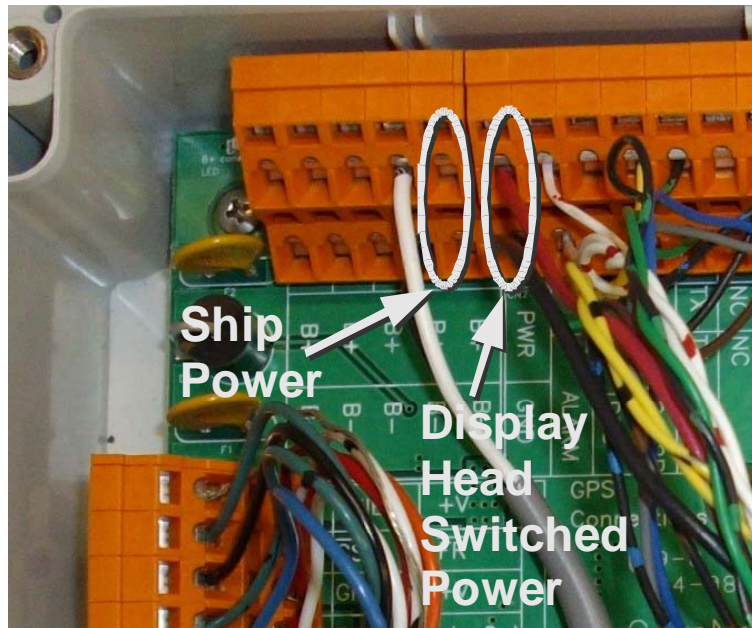

Figure 9 – Vector G2 Power Connection - Always On or Switched
The Vector G2 Power wires can be connected to two (2) different sets of terminals, depending on your vessel, and what other NMEA devices are receiving data from the Vector, as shown in figure 9.